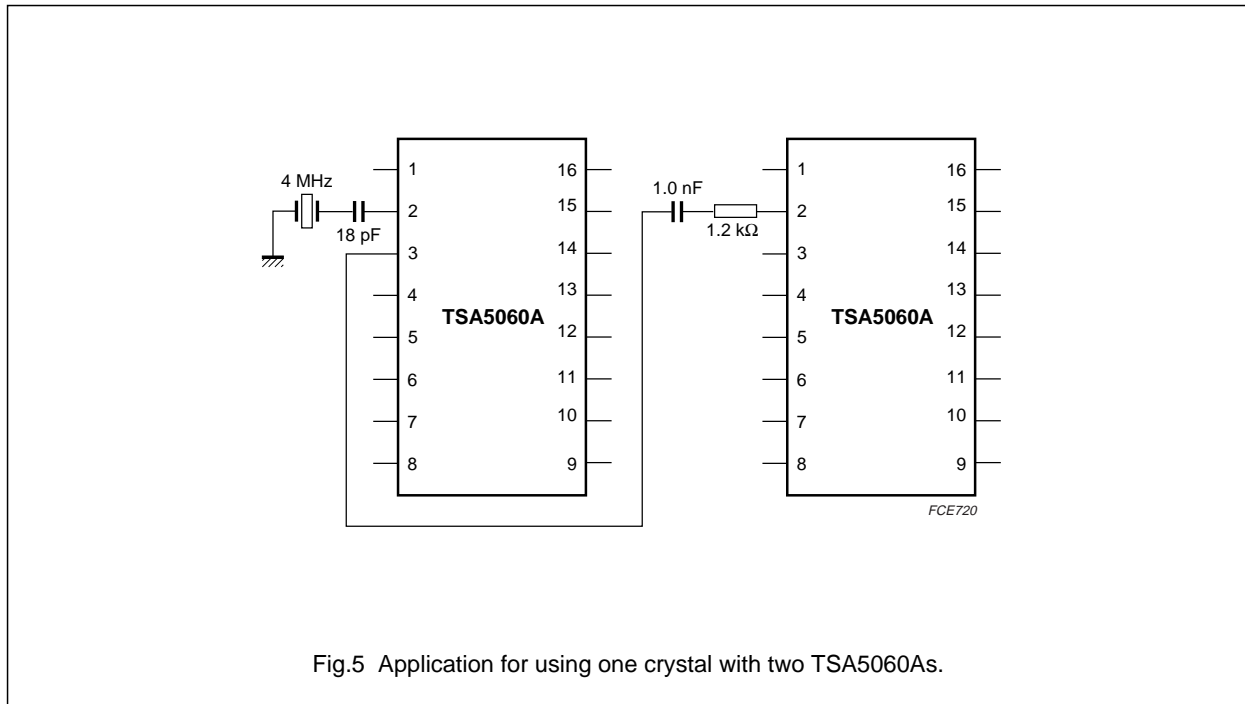

Fig.5 Application for using one crystal with two TSA5060As.
- To drive pin XTAL from the pin XT/COMP of another TSA5060A, couple the signal through a capacitor of 1 nF (to remove the DC level) in series with an 1.2 k $\Omega$  resistor; see Fig.5.
It is also possible to feed pin XTAL with an external signal between 2 and 20 MHz, coming from an external oscillator or from the pin XT/COMP of another TSA5060A, when more than one synthesizer is present in the same application. The application given in Fig.5 should then be used.